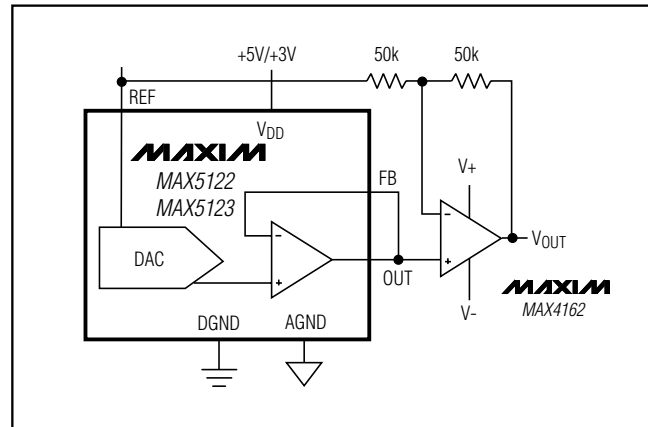

Figure 10. Unity-Gain Bipolar Output Circuit Using Internal (+1.25V/+2.5V) or External Reference. With external reference, pull REFADJ to  $V_{DD}$ .
The MAX5122/MAX5123 can be configured for unity-gain bipolar operation (FB = OUT) using the circuit shown in Figure 10. The output voltage  $V_{OUT}$  is then given by the following equation:
where NB is the numeric value of the DAC's binary input code,  $V_{REF}$  is the voltage of the internal (or external) precision reference, and G is the overall gain. The application circuit in Figure 10 uses a low-cost op amp (MAX4162) external to the MAX5122/MAX5123. Together with the MAX5122/MAX5123 this circuit offers an overall gain of +2V/V. Table 6 lists example codes for bipolar output voltages.
**Table 6. Bipolar Code Table (Figure 10)**